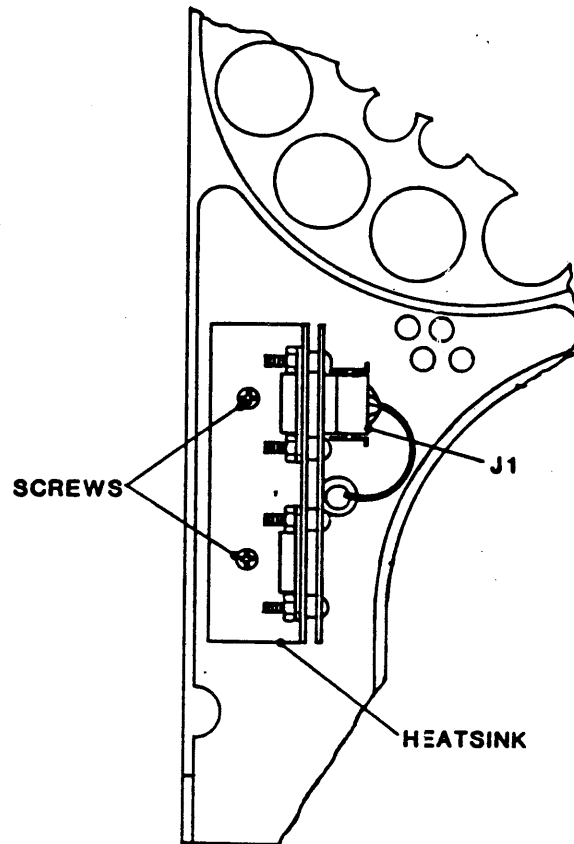

Figure 4-13 12 VDC Regulator Power Supply
4.3.15 12 VDC REGULATOR ASSEMBLY (Fig. 4-13)